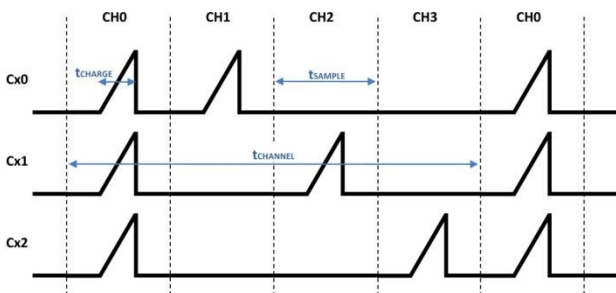

Figure 8.2 Signals on CX's / CRX's during Normal Power Mode.
With the **IQS213** in Normal Power (NP) mode, the sense channels are charged at a fixed sampling frequency (f_{SAMPLE}) per channel. This is done to ensure regular samples for processing of results. It is calculated as each sample having a time ($t_{\text{SAMPLE}} = \text{charge period} (t_{\text{CHARGE}}) + \text{computation time}$) of approximately 2.6ms, thus the time between consecutive samples on a channel (t_{CHANNEL}) will optimally be $t_{\text{SAMPLE}} = 4 * t_{\text{SAMPLE}} \approx 10.4\text{ms}$ (or 96Hz). The charge sequence and timings are illustrated in **Figure 8.2**.